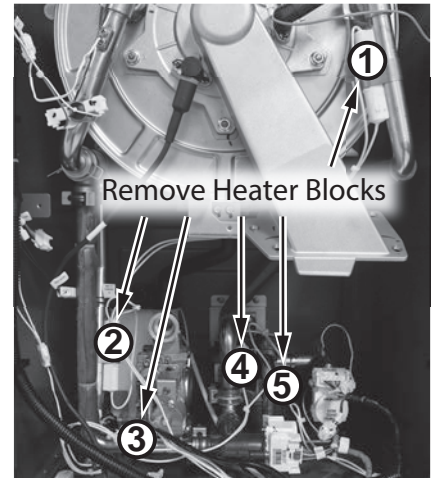

Figure 32 - Remove remaining heater blocks
- 15 Locate the five (5) remaining heater blocks attached to pipe connections as shown in Figure 32. Note the path of wires for ease of installation of new assembly. Remove brackets securing heater blocks to pipe connections. Place brackets aside in a safe place for reinstallation.